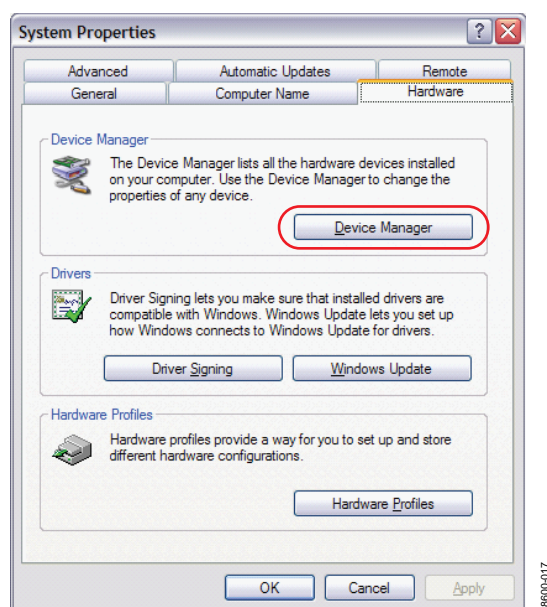

Figure 14. System Properties Window
3. Select the **Hardware** tab and click **Device Manager** (see Figure 14).